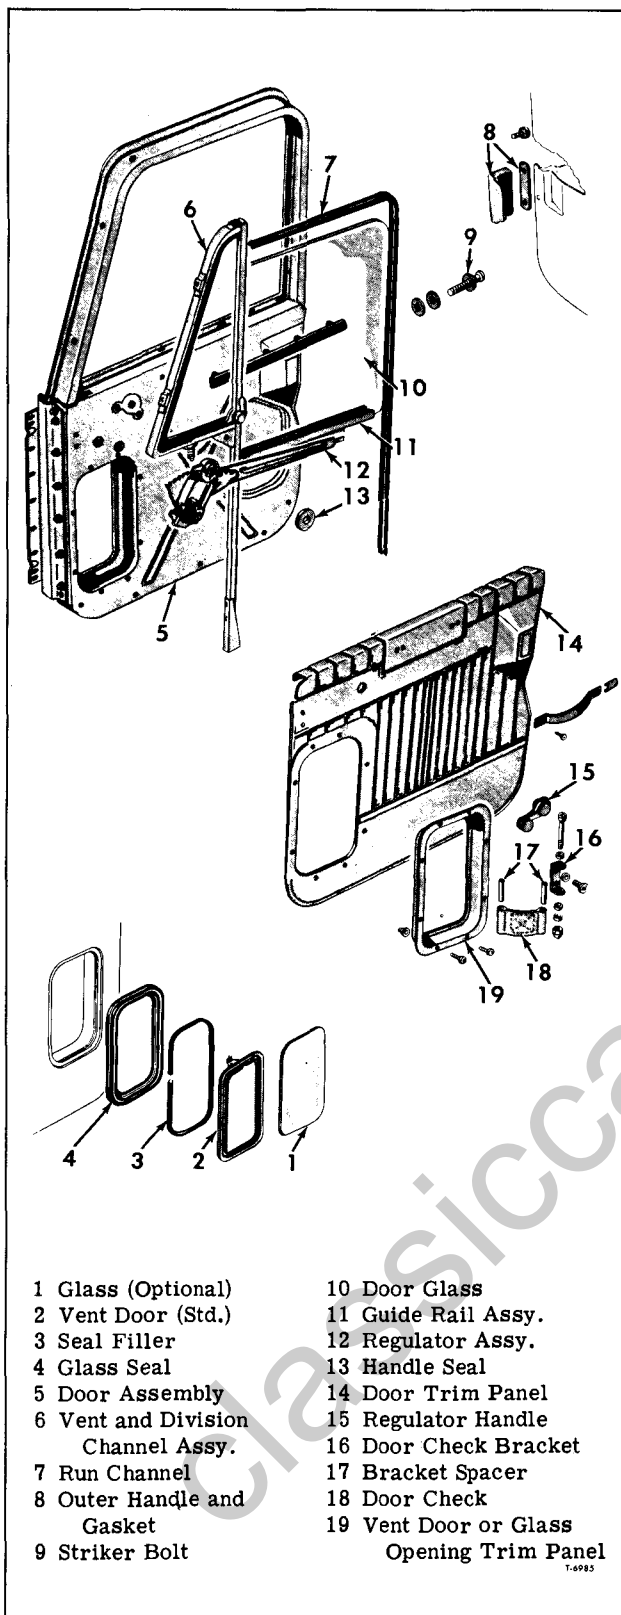

Figure 22—Door Components
MANUAL WINDOW REGULATOR REPLACEMENT (Fig. 22)
REMOVAL (Figs. 22 and 24)
3. Remove two division channel retaining screws from bottom of door. (Refer to figure 22).
5. Unlatch vent window and swing out. Just below vent window, remove plug from door inner panel. Through hole, remove vent window frame attaching screw. (Refer to figure 22).
INSTALLATION (Figures 22 and 24)